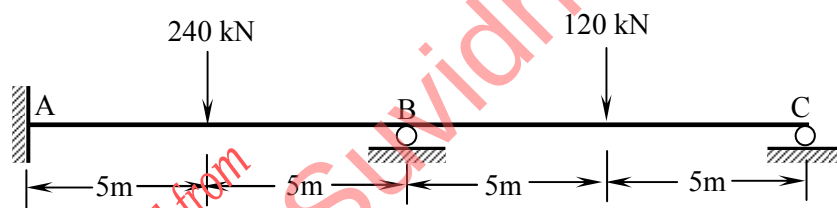

Figure 4.
- Q.4 (a)** Formulate the stiffness matrix (S) and load vector (A_D-A_{DL}) for the structure shown in the Figure 4. Take EI constant. **07**
- Q.4 (a)** Formulate the flexibility matrix (F) and D_{QL} vector for the structure shown in the Figure 4. Assume reactions at supports B and C as redundants. Take EI constant. **07**